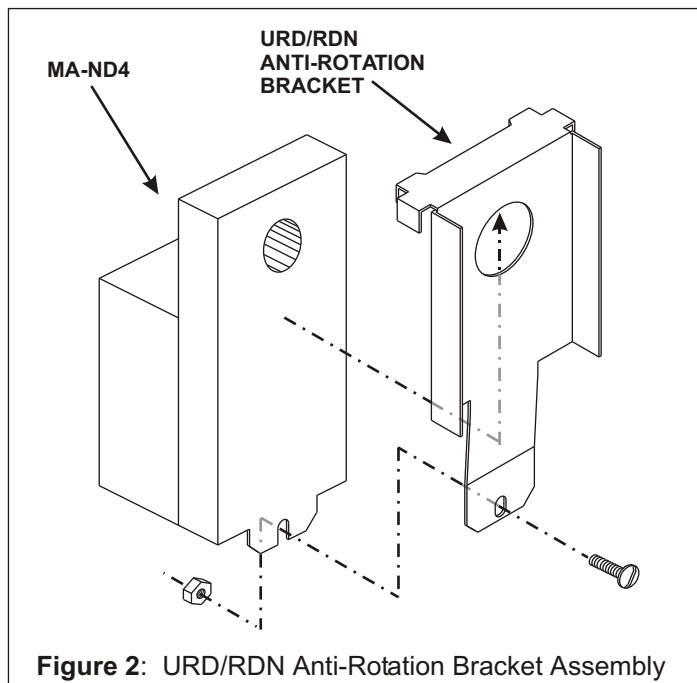

Figure 2: URD/RDN Anti-Rotation Bracket Assembly
- MODEL URD & RDN STYLE DAMPERS (Figure 2)**
- Select appropriate Anti-Rotation Bracket for your damper. See figures 2 or 3.